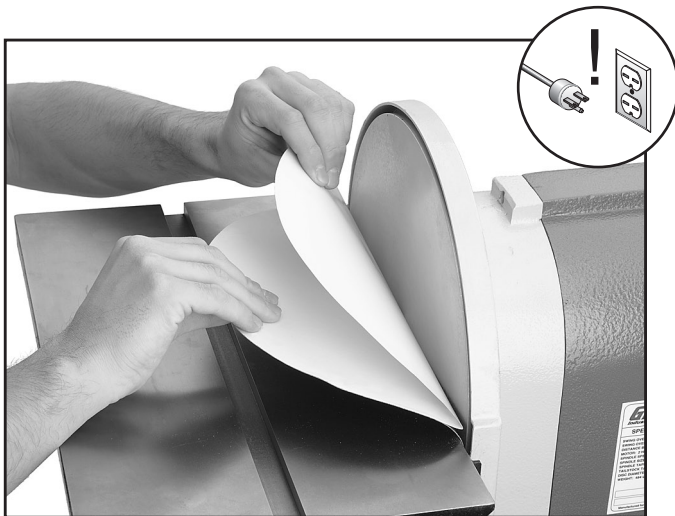

Figure 31. Sandpaper being installed on disc.
5. Bend the paper back and remove the remaining half of the protective layer (**Figure 31**), then press the adhesive portion against the disc.